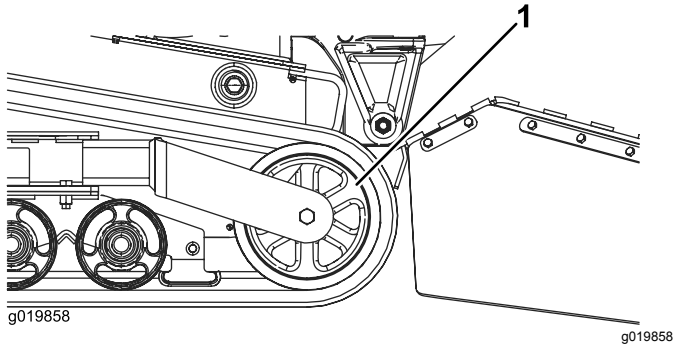

Figure 49
5. Push the tensioning wheel rearward as far as it will go (Figure 49).
7. When the track is off of the tensioning wheel, remove it from the machine (Figure 49).